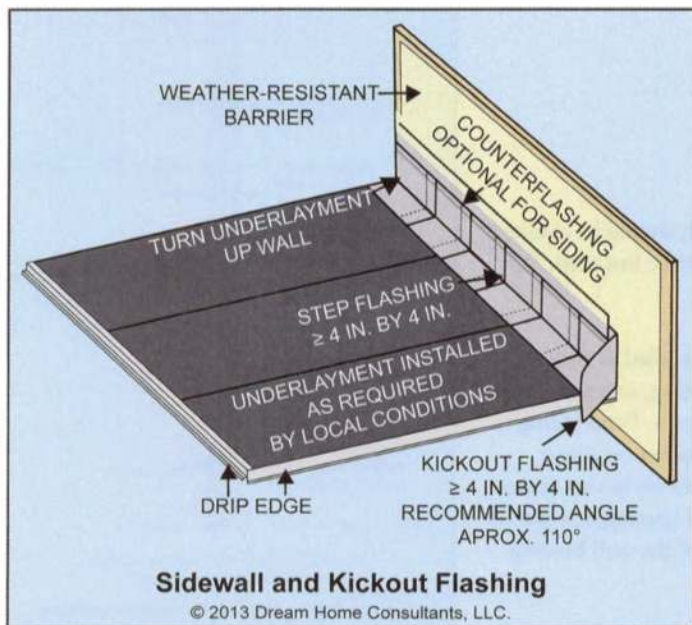

Figure 3
- Kick-out flashing should be installed in the usual place where a sidewall extends past a roof. Kick-out flashing should be at least 4 inches tall and 4 inches wide. See Figure 3 on Page 10.